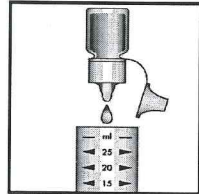

Figure 1
1. Add 5 drops of A-7400 Activator Solution to the sample cup (fig 1).